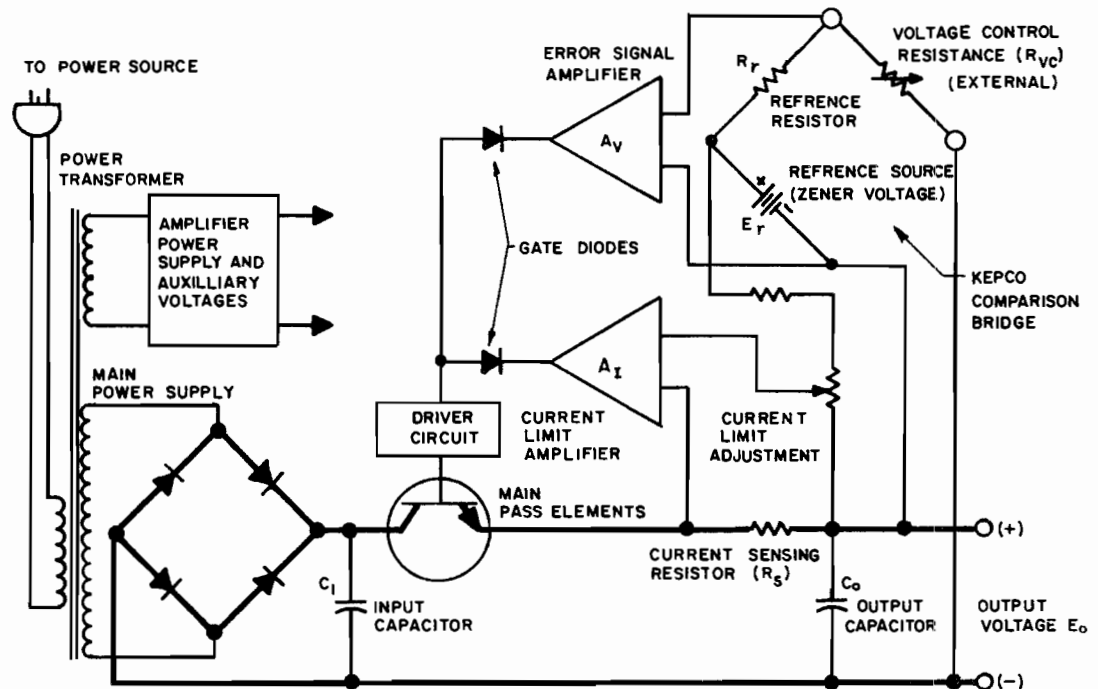

FIG. 4-1 SIMPLIFIED DIAGRAM, PAT POWER SUPPLIES.
(References in CAPITAL LETTERS refer to the nomenclature used in FIG. 4-1.)
### 4-1 SIMPLIFIED DIAGRAM DISCUSSION. (Refer to FIG. 4-1.)
- a) A-C INPUT CIRCUIT. A-C input power is introduced through rear barrier-strip TB1, terminals (1) and (2). Terminal (3) is connected to the chassis and should always be returned to a-c ground. The fuse (F1) protects the primary of the power transformer (T201) from excessive current. T201 has two primary windings which are connected either in parallel (for 115V a-c service) or in series (for 230V a-c service).
- e) THE COMPARISON BRIDGE. This 4-arm electrical bridge circuit is the regulating and controlling element in many Kepco Power Supplies. In the PAT models it consists of the reference voltage  $E_r$  (CR8), the reference resistor  $R_r$  (R15 and the optional bridge current adjustment rheostat R16), the voltage control resistance  $R_{VC}$  [either the optional internal control R13 or the resistor externally applied between terminals (11)-(12) on TB1], and the output voltage  $E_o$ . As shown in FIG. 4-1, the internal reference voltage  $E_r$  in series with the reference resistance  $R_r$  is continuously compared with the output voltage  $E_o$  in series with the voltage control resistance  $R_{VC}$ . At balance ( $E_{AA'} = 0$ ), a constant bridge current  $I_b$  flows through the bridge, keeping the error signal at bridge terminals A-A' at approximately zero volts. Any deviation in  $E_o$  caused by a-c source, load variations, or other influences will tend to change  $I_b$  in the bridge circuit and thereby produce an error signal at the bridge terminals A-A'. This error signal is then amplified by the error signal amplifier  $A_V$  and acts as a control signal for the series regulator or pass element changing the voltage drop across it in such a way as to restore the previous output voltage level.